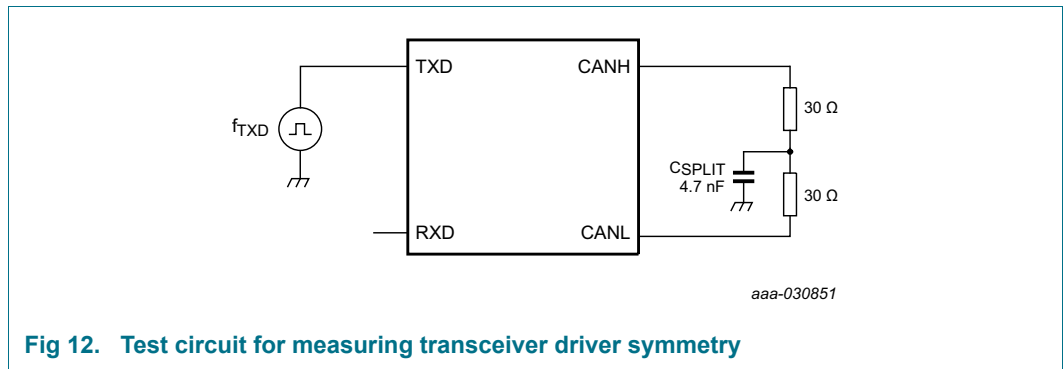

Fig 12. Test circuit for measuring transceiver driver symmetry
- [4] The test circuit used to measure the bus output voltage symmetry (which includes C_{SPLIT}) is shown in Figure 12.